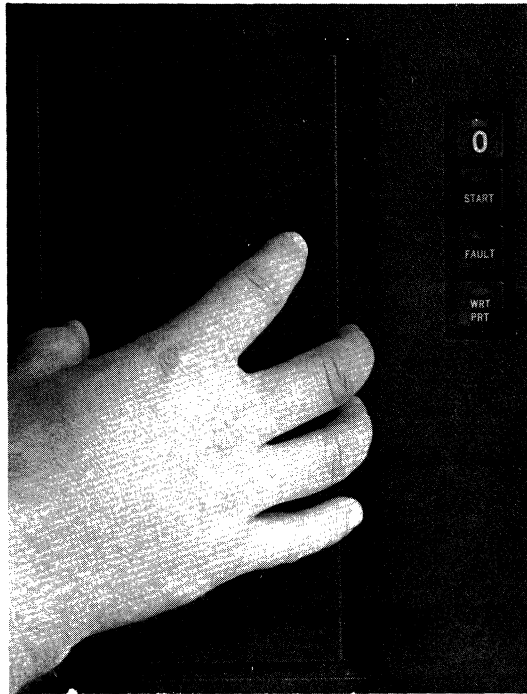

Figure 3-3. Removing Filter Cover
The air filter for each drive must be clean to ensure proper air circulation through the drive. The filter is located behind the filter cover shown in Figure 3-3. You should inspect the filter of each driver periodically and either replace or clean it when it is dirty. Cleaning the filter is recommended only if replacement filters are not available. The interval for filter maintenance depends on the operating environment. In computer room conditions, a 6-month interval is suggested. In other conditions, the filter should be checked more frequently. Replacement filters are available from Honeywell. (Order a box of ten from the *NDO Supplies and Accessories Sales Catalog*, Order No. GF60, using Catalog No. M1463.)
1. Remove the filter cover that is inserted in the front panel by pulling firmly towards you (as you face the drive) to disengage the cover catches (Figure 3-3).
1. Remove the filter cover that is inserted in the front panel by pulling firmly towards you (as you face the drive) to disengage the cover catches (see Figure 3-3).